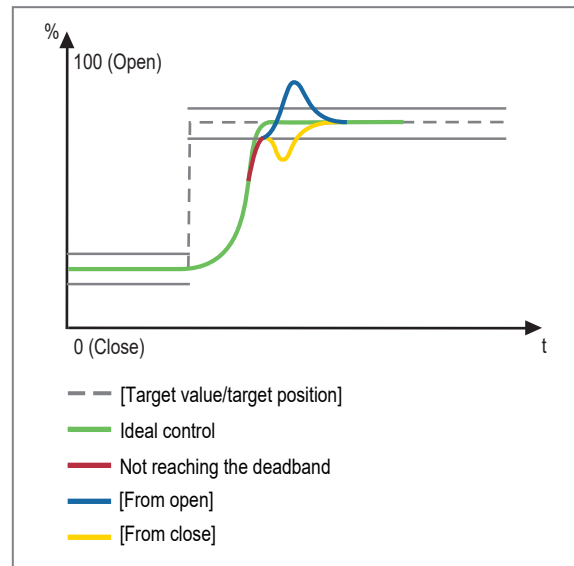

Fig. 5: Approach when the deadband is not reached
- With the setting [From open], the device tries not to fall below the target range during control → Figure 5.